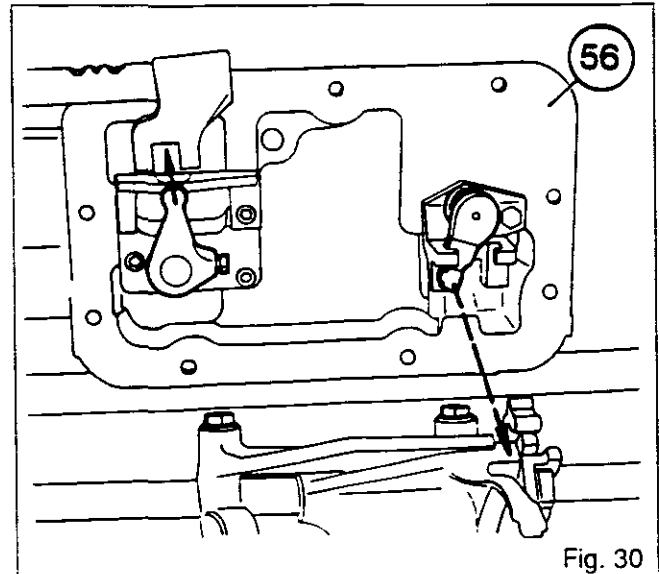

Fig. 30
#### 4 x 2 gearbox (Fig.30)
97. Fit the cover to the gearbox, making sure that the levers are correctly engaged in the selector forks (Fig.30).